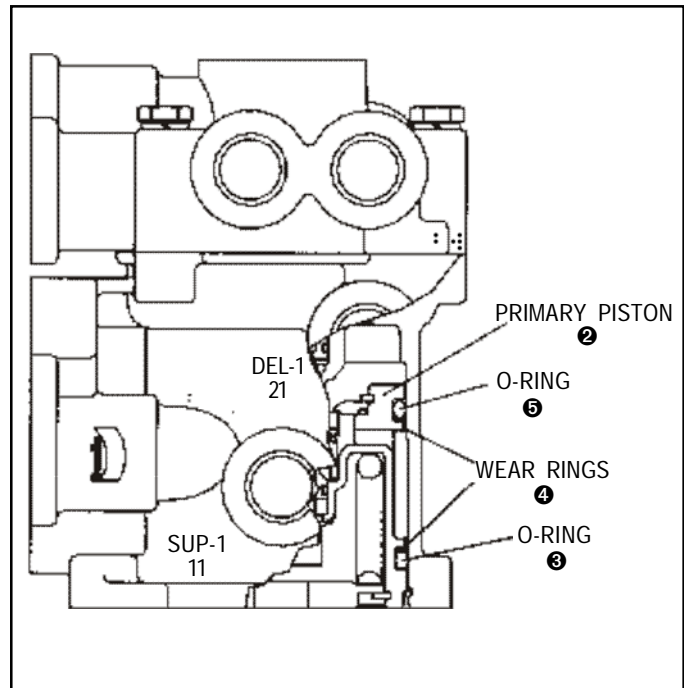

FIGURE 10
2. Place primary piston(2) on a flat surface and install rubber spring(9) and metal graduating spring(8).
3. Install graduating spring retainer(7) on top of graduating spring(8), making certain that the side with the high circular protrusion is away from the spring.
4. Manually depress and hold spring retainer(7) in piston(2), then install snap ring(6), making certain it is completely seated in its groove in piston(2).
5. Install o-rings(15) on both valve assemblies(13).
6. Install valve spring(14) in piston(2), then install valve assembly(13) in the spring.
7. Install o-ring(12) into the o-ring groove of piston(2), then install valve seat(11) on valve assembly(13). Gently depress and hold the valve seat in piston(2) while installing retaining ring(10).
8. Install o-rings(3 and 5) on primary piston(2), then install wear rings(4) in the o-ring grooves next to the o-rings. Make certain that one flange of the wear ring(4) is in the o-ring groove, while the opposite flange extends away from the end of piston(2) and toward the center. The wear ring flange **MUST NOT COVER OR OVERLAP EITHER O-RING.** (See Figure 10.)
9. Carefully insert the assembled primary piston(2), valve end first, into the primary valve body until the piston retaining ring groove in the body is visible. Make certain o-rings(3 and 5) and wear rings(4) are not damaged in the process. Do not force the piston. If substantial resistance is encountered, check for proper installation of the wear rings.
10. Install piston retaining ring(1) in its groove in the secondary body, making certain it is fully seated in the groove.
11. Install plunger(21) in its return spring(22). Install the spring and plunger on secondary piston(18). While manually depressing and holding the plunger and spring on the piston, slide plunger and spring retainer(23) into place so that it secures both the plunger and spring to the piston. Make certain the retainer flanges are securely around piston lip and plunger groove.
13. Install diaphragm retainer(27), diaphragm(26), diaphragm washer(25), and screw(24) in the exhaust port. Torque screw to 15-25 in. lbs. NOTE: Some E-14™ brake valves have threaded exhaust ports instead of items 24-27.
14. Install valve spring(14) in the secondary body, then install valve assembly(13) in the spring.
15. Install o-ring(12) into the o-ring groove of piston(2), then install valve seat(11) on valve assembly(13). Gently depress and hold the valve seat in the secondary body while installing retaining ring(10).